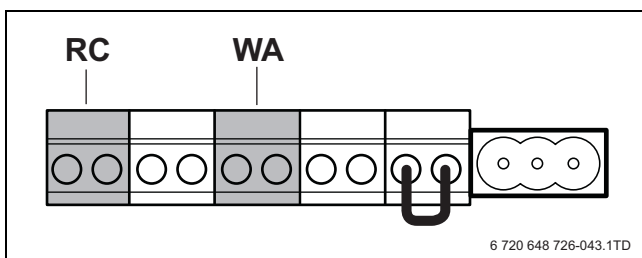

Fig. 43 Terminal strip – RC room controller and WA potential-free heat demand
**i** It is **not** possible to connect more than one room controller (→ fig. 43).